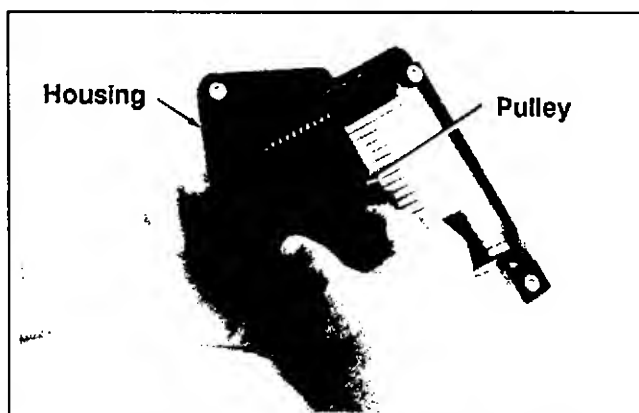

Figure 7-7. Removing Pulley From Housing.
7. Rotate the pulley slightly from side to side and carefully separate the pulley from the housing. See Figure 7-7.